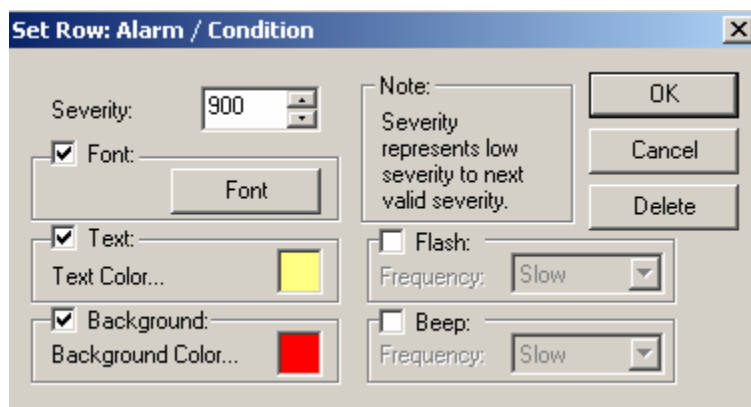

Figure 7.10. Alarm Row Configuration
3. Click on the **Configure** button. This opens the **Set Row** dialog box, as shown in Figure 7.10. Here you can change the **Font**, **Colors**, **Flash**, and **Beep** parameters. Click **OK** when you are finished.